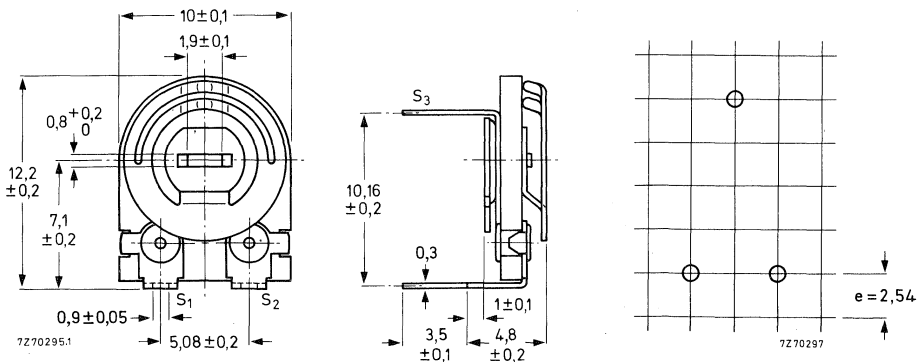

Fig. 1a. Potentiometer for horizontal mounting.
- 20 = potentiometer for horizontal mounting (Fig. 1a)